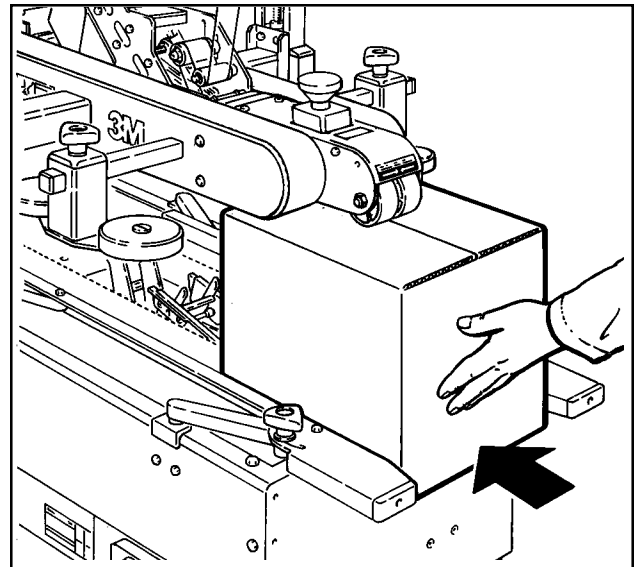

Figure 3-5 – Check Adjustments
3. RUN BOXES TO CHECK ADJUSTMENT (Figure 3-5)